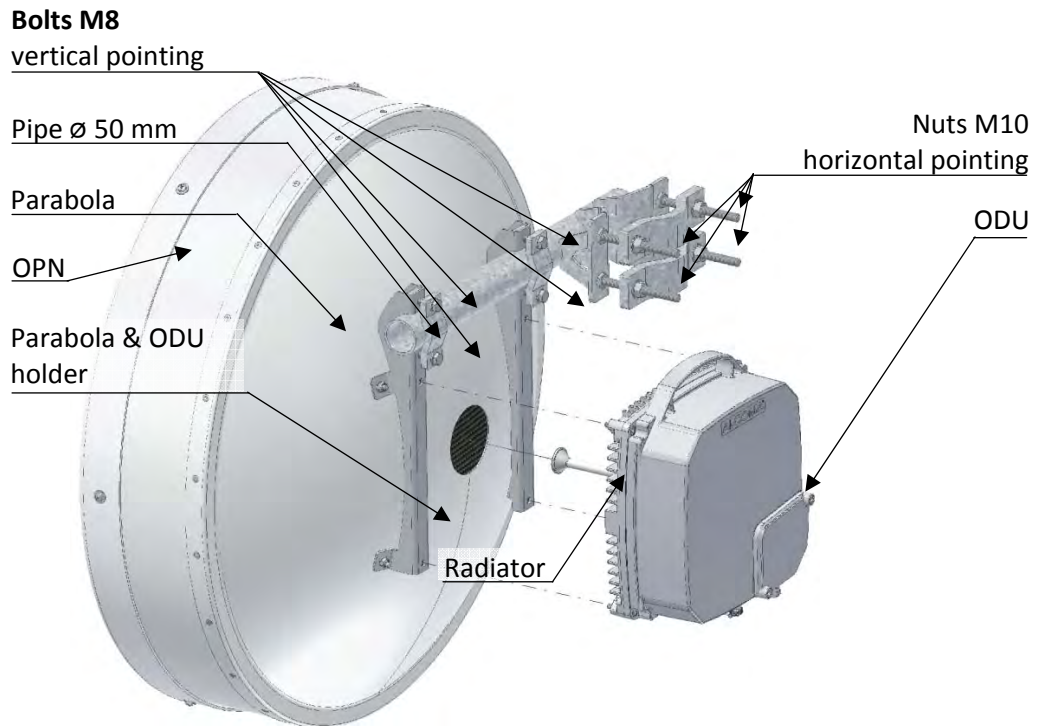

Figure 18 The AL2-xx/ME antenna installation (also for the AL1-xx/ME antenna)
- **Gradually tighten the bolts** that hold the parabola and ODU to the profile (figure 18)